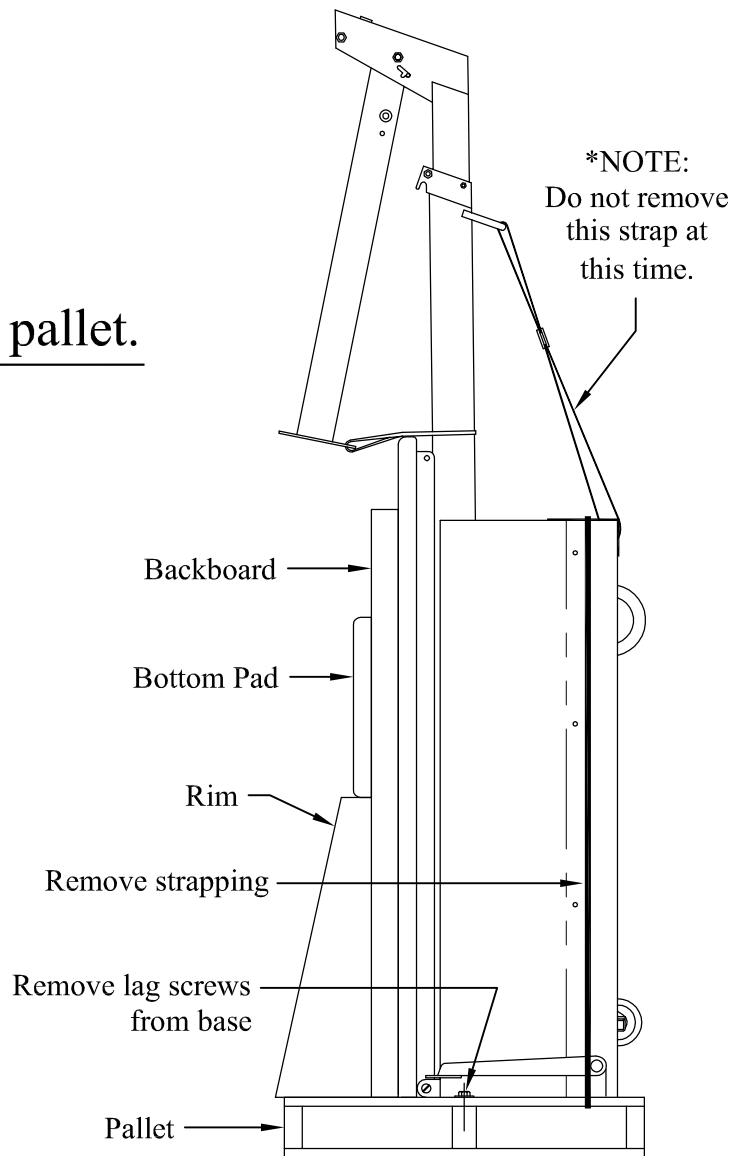
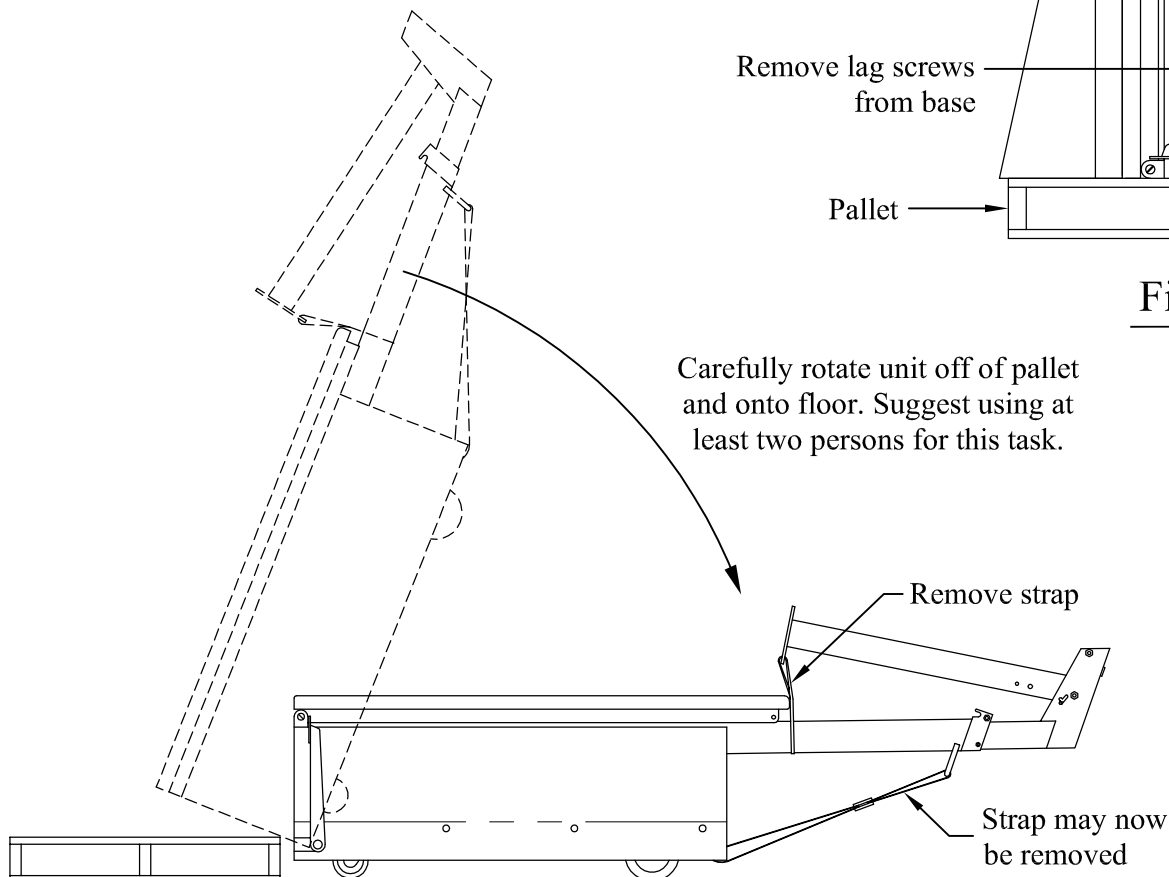

Figure 1.
Figure 2.
- (A) Use a fork lift to unload the unit from the truck. See fig. 1
- (B) Remove the wrapping materials.
- (C) Remove rim, bottom pad and backboard.
- (D) Remove two lag screws which hold the base to the pallet.
- (E) Carefully rotate the Micro-Z down to the floor as shown in fig. 2